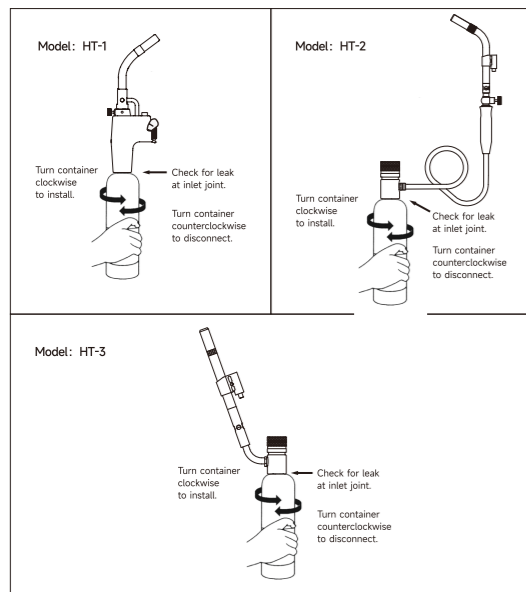

Figure 2-Assembly and Disassembly
3. Install a propane or MAPP® fuel container into the Inlet Connection of the torch. Turn the container clockwise (see Figure 2).
1. After the fuel container is attached to the torch, check for leak at the inlet joint (see Figure 2, page 5).